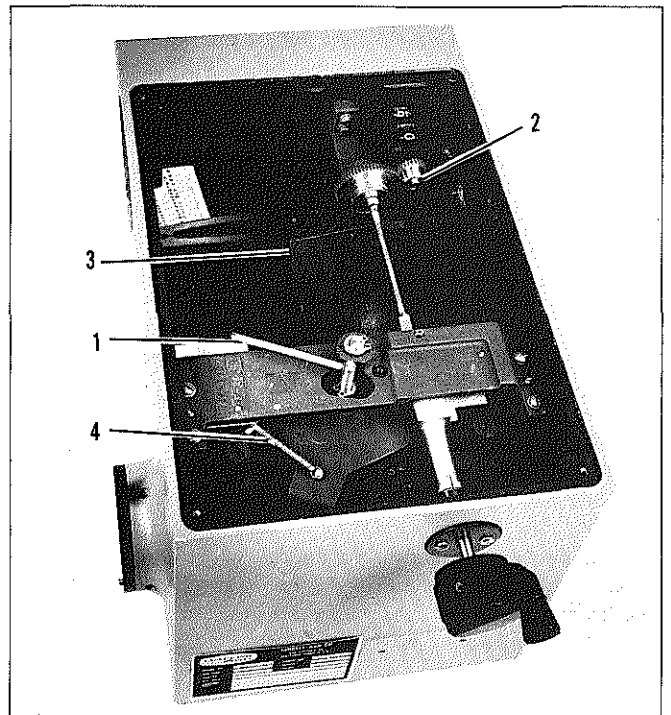

Figure 4
2-3-6 Rotate the wavelength drive until a bright green mercury line is seen visually through the exit slit ($100\ \mu$). Set the counter to $546\ \text{m}\mu$, by loosening the set screw on the small counter gear (2, Fig. 4).
2-3-12 Rotate the wavelength drive to approximately 300.0 m μ , and place a tungsten source at the entrance slit. A re-entry spectrum will appear at the center of the collimating mirror and may be observed at the exit slit. To eliminate the re-entry spectrum, rotate the baffle (3, Fig. 4) located below the wavelength counter, until the re-entry spectrum is visually eliminated from the C-2 collimating mirror. Do not mask out more light than is required to accomplish the above step.
- Unscrew the grating selector arm (1, Fig. 4).
- Disconnect spring (4, Fig. 4) from grating yoke.
2-6-6 Carefully replace grating yoke assembly within the monochromator and complete the assembly by replacing the spring (4, Fig. 4) and the selector arm (1, Fig. 4).
Replace handle. Insert knurled screws into appropriate threaded holes (3, Fig. 4). Do not screw these all the way home.